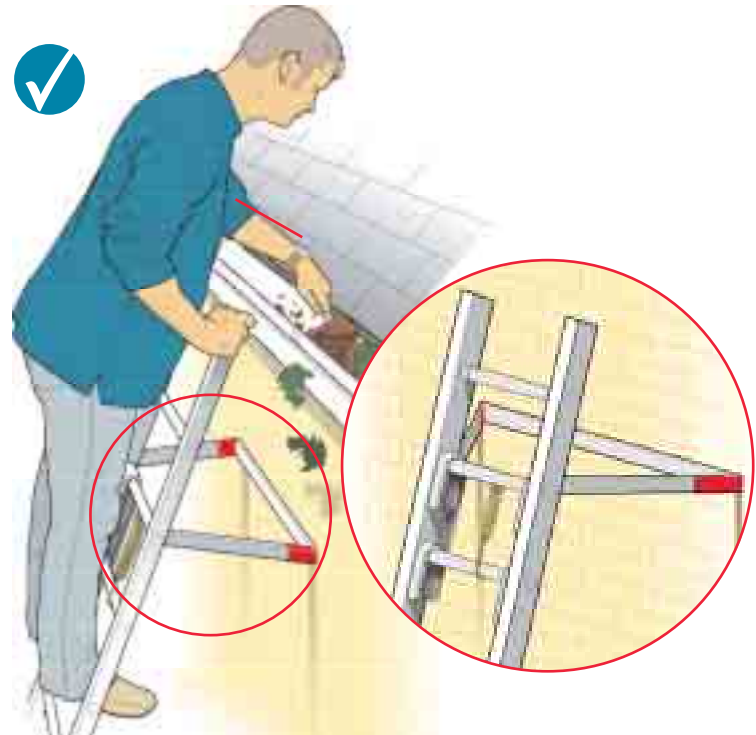

Figure 9 Stand-off device and working maximum height on a ladder
- don't rest **ladders** against weak upper surfaces (eg glazing or plastic gutters). Alternatively, you can use effective spreader bars or effective stand-offs (see Figure 9).
- don't use the top three rungs (see Figure 9);